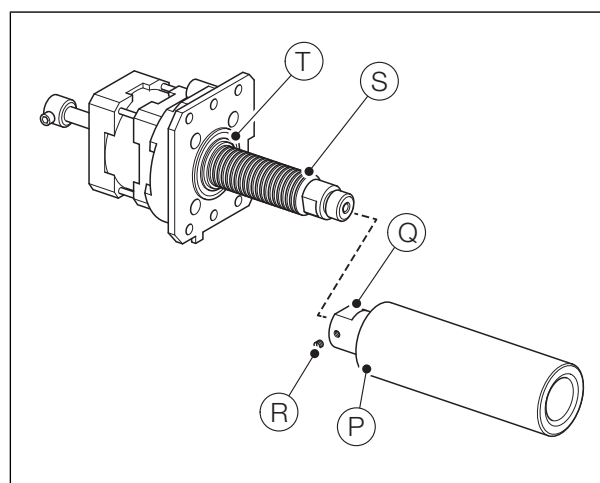

Fig. 13.15 Dismantling/Reassembling the Piston
8. Referring to Fig. 13.15:
- Slide the sample tube (P) off the piston assembly (Q). Discard the sample tube.
- Loosen retaining grub screw (R), unscrew the piston assembly (Q) from the piston shaft (S) and discard the piston assembly.
- Remove O-ring (T) from the base of the motor mounting plate and discard.
- Fit new O-ring (T) ensuring it is located correctly in the groove in the base of the motor mounting plate.
- Screw the new piston (Q) and sample tube (P) assembly onto piston shaft (S) and tighten the retaining grub screw (R).
- Slide sample tube (P) up to contact O-ring (T).